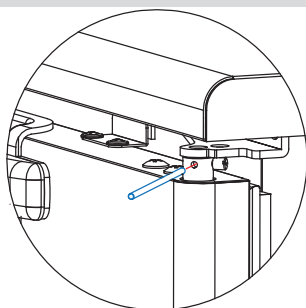

Fig 9-29
1. Insert the steel stick between the shaft holes. (Fig 9-29)